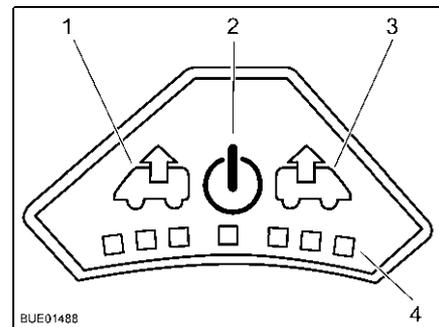

Fig. 96 Control panel for fan
- Press the On/Off button (Fig. 96,2). The fan runs in comfort mode (venting at slowest fan speed).
- To increase the fan speed: Press the Vent button (Fig. 96,1). The fan speed in the venting direction increases by one level. LEDs (Fig. 96,4) show the operating levels.
- To lower the fan speed: Press the Aerate button (Fig. 96,3). The fan speed decreases by one level.
- To increase the fan speed: Press the Aerate button (Fig. 96,3). The fan speed in the aerating direction increases by one step. LEDs (Fig. 96,4) show the operating levels.
- To lower the fan speed: Press the Vent button (Fig. 96,1). The fan speed decreases by one level.
- Press the On/Off button (Fig. 96,2). The fan stops, the LEDs go out.